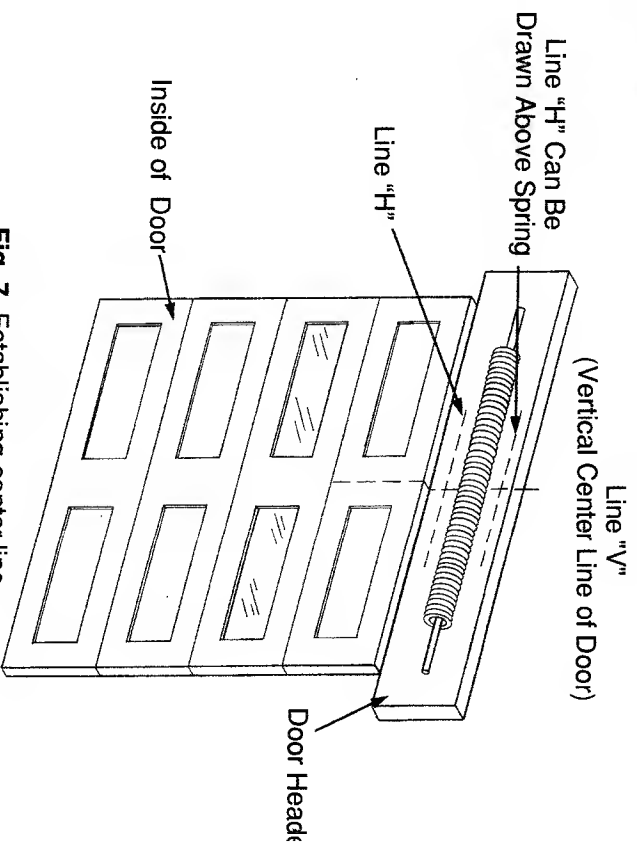

Fig. 7. Establishing center line
## 1 ESTABLISH CENTER LINE OF DOOR AND HEADER. (Fig. 7)
- Draw horizontal line "H" across line "V" at this point. (Fig. 7)